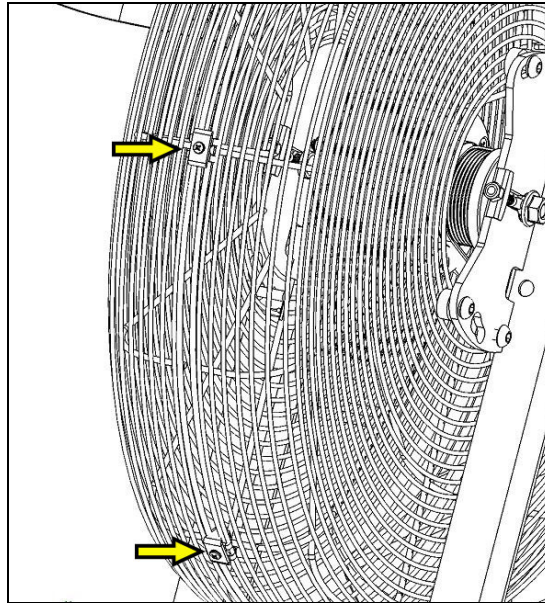

Fig. 14
14. To remove the fan, remove the screws holding the cage together (Fig. 14).